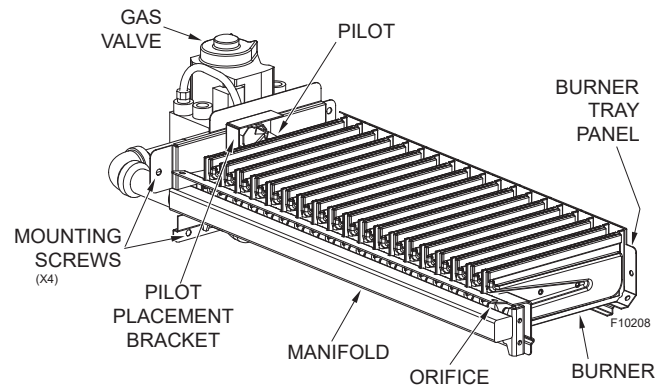

Figure 40. Burner Tray Assembly
5. Remove (3) screws holding the anti-rotation bracket in place.
7. Remove (4) screws as shown in Figure 40.
9. Remove (2) screws holding the control panel up.